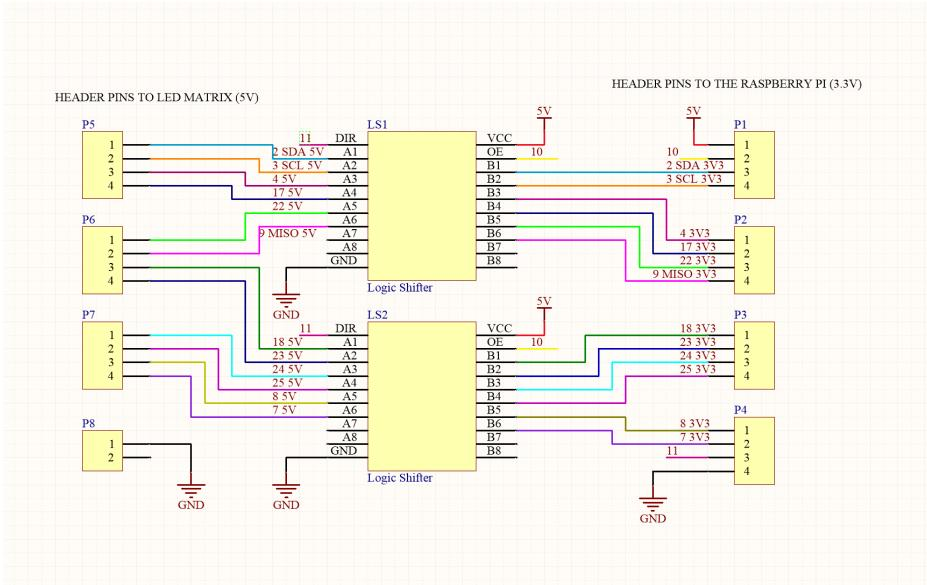

Figure 16: Logic Shifter schematic
In Figure 16 the wire labels correspond to the name of the GPIO pin the signal comes from on the raspberry pi. All pin numbers that lead to the Raspberry Pi represent **GPIO pin numbers, NOT physical pin numbers**. For instance, for header P2, pin 1 is labelled with "4 3V3". This should be connected to **GPIO pin 4** on the **Raspberry Pi (physical pin 7)**. The data sheet for the logic shifter IC chip can be found at:
2. Now, you will need to run connections to the board from the Raspberry Pi. Figure 16 shows which pins on the board are connected to which pin on the Raspberry Pi, with the exception of the purple wire, which will be using to test the signals and drive it from the 3.3V DC power pin on the Raspberry Pi. Figure 19 shows which of these we will need to start connecting the board to test.
6. Repeat this process for the rest of the pins, following along with the circuit diagram in Figure 16, making sure each channel of the shifter is working correctly.